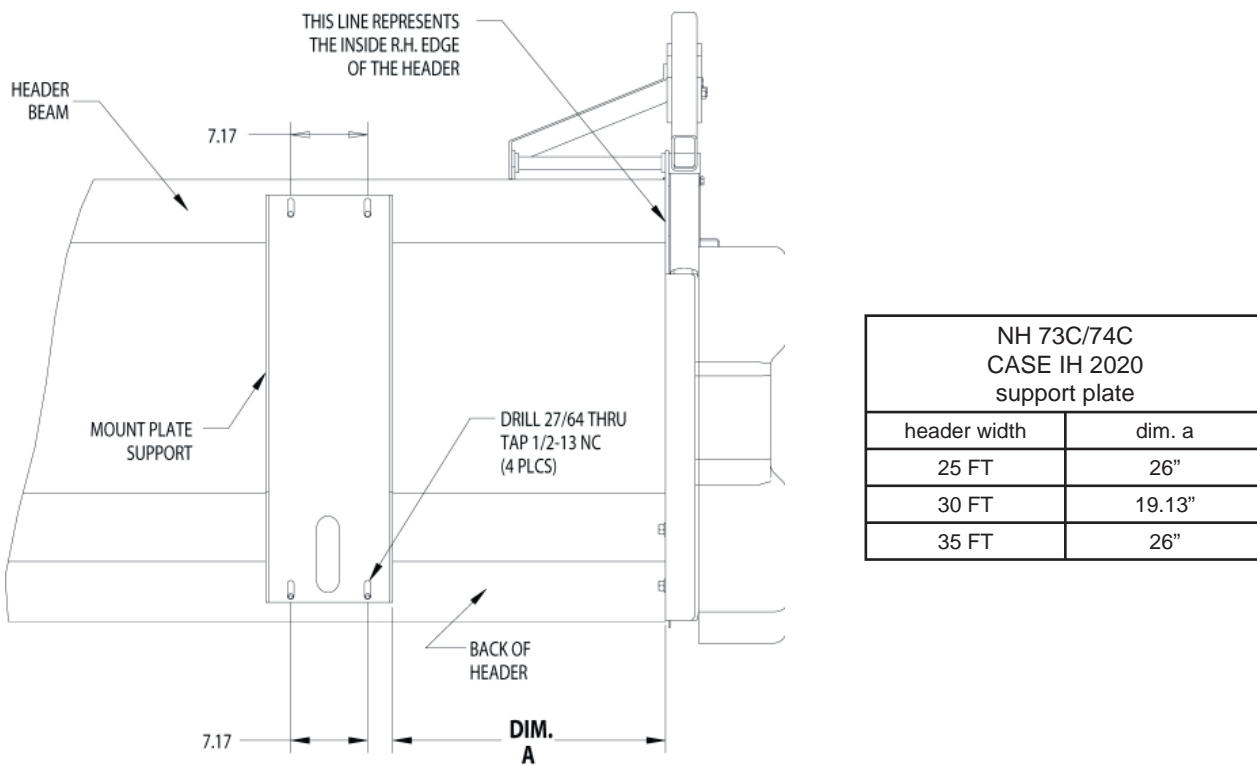

Figure 15, Gearbox mount plate location
1. Line up the gearbox mount plate according to Figure 15. Make sure the mount plate is pushed up as far as possible against the top header beam before performing Step 2.